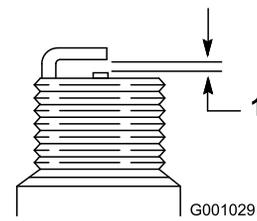

Figure 57
4. Set the gap between the electrodes on a new spark plug at 0.76 mm (0.030 inch) as shown in Figure 57.